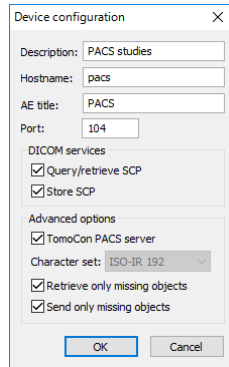

Figure 89 – Device configuration dialog
- To add a new DICOM device as a separate item, click **Add device** button to display the **Device configuration** dialog (Figure 89). Fill in the fields and click **OK** to confirm.
- To add a new DICOM device into a previously defined group, select the group in the list and click **Add device**. The **Device configuration** dialog (Figure 89) is displayed. Fill in the fields and click **OK** to confirm.
- To modify a group or a DICOM device, click **Configure...**. The **Device configuration** dialog is displayed, where the information concerning a group or device can be modified (see Figure 89).